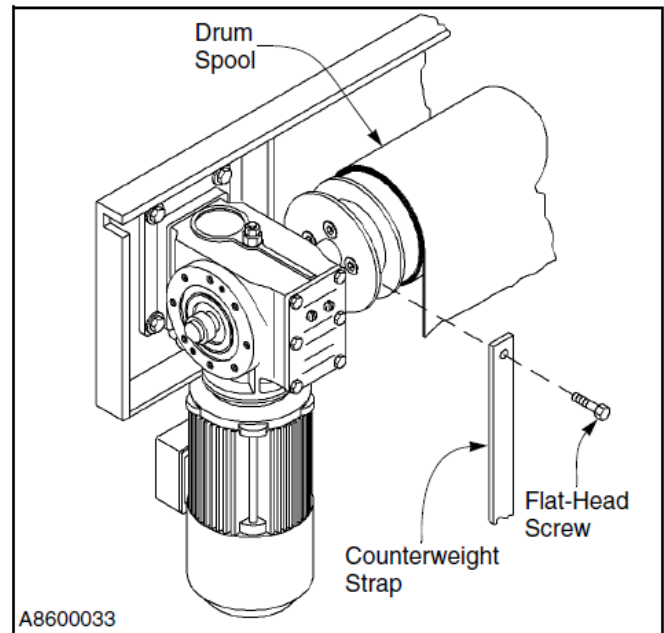

Figure 43
9. Remove and save the screw securing the strap to the drum spool. (See Figure 43.)
10. Attach the new strap to the drum spool in the same manner as the old strap using the saved screw. (See Figure 43.)